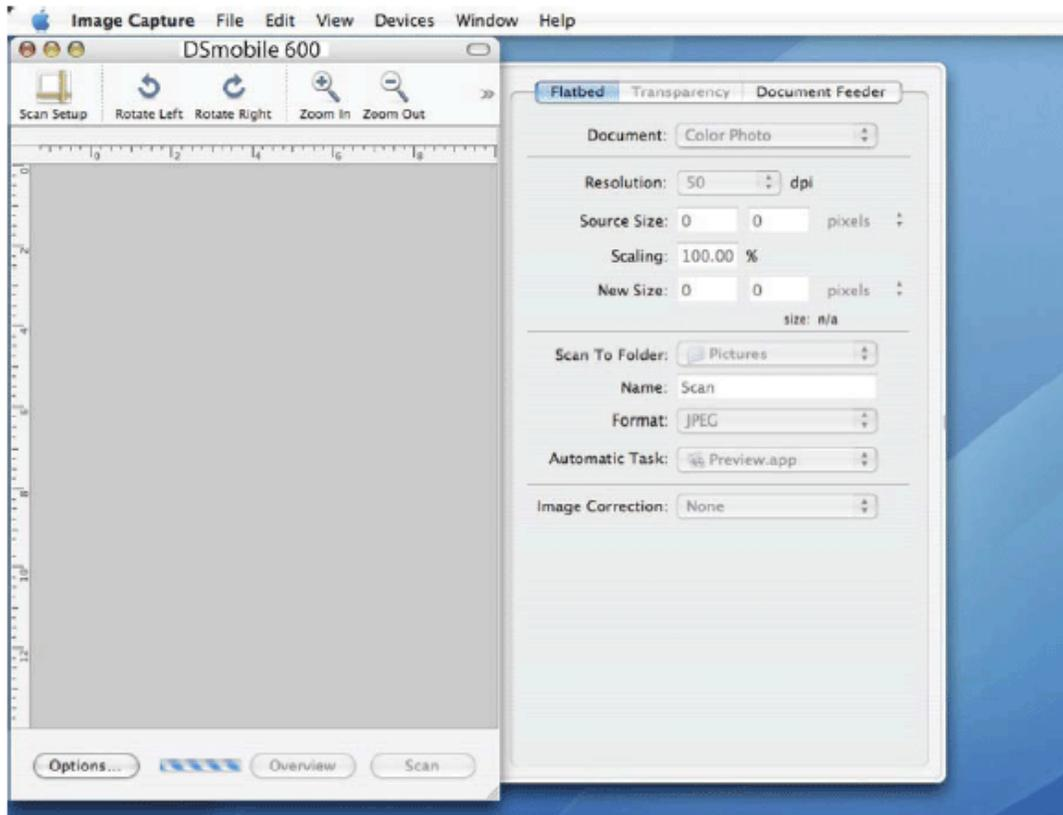

Figure 7. Tiger Image Capture Window
3. Open the "Applications" folder and run "Image Capture" (See Figure 7).